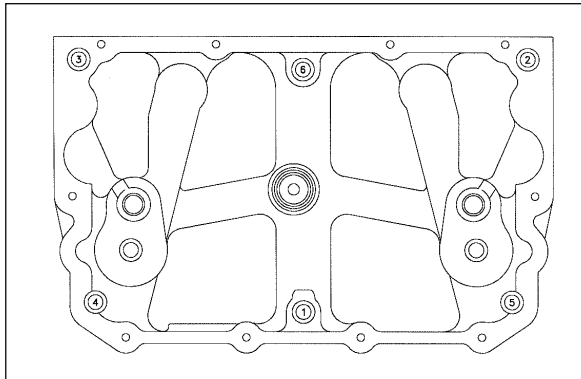

Figure 3-3
5. Tighten the capscrews to 35 lbft (48 N\*m) in sequence as shown in Figure 3-3 then re-torque to 70lbft (95N\*m).